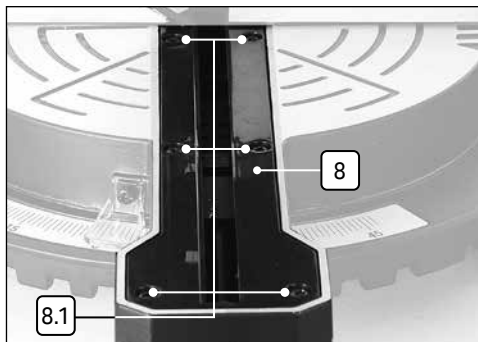

Fig. 29
8.1 Table Insert Replacement – Fig.29